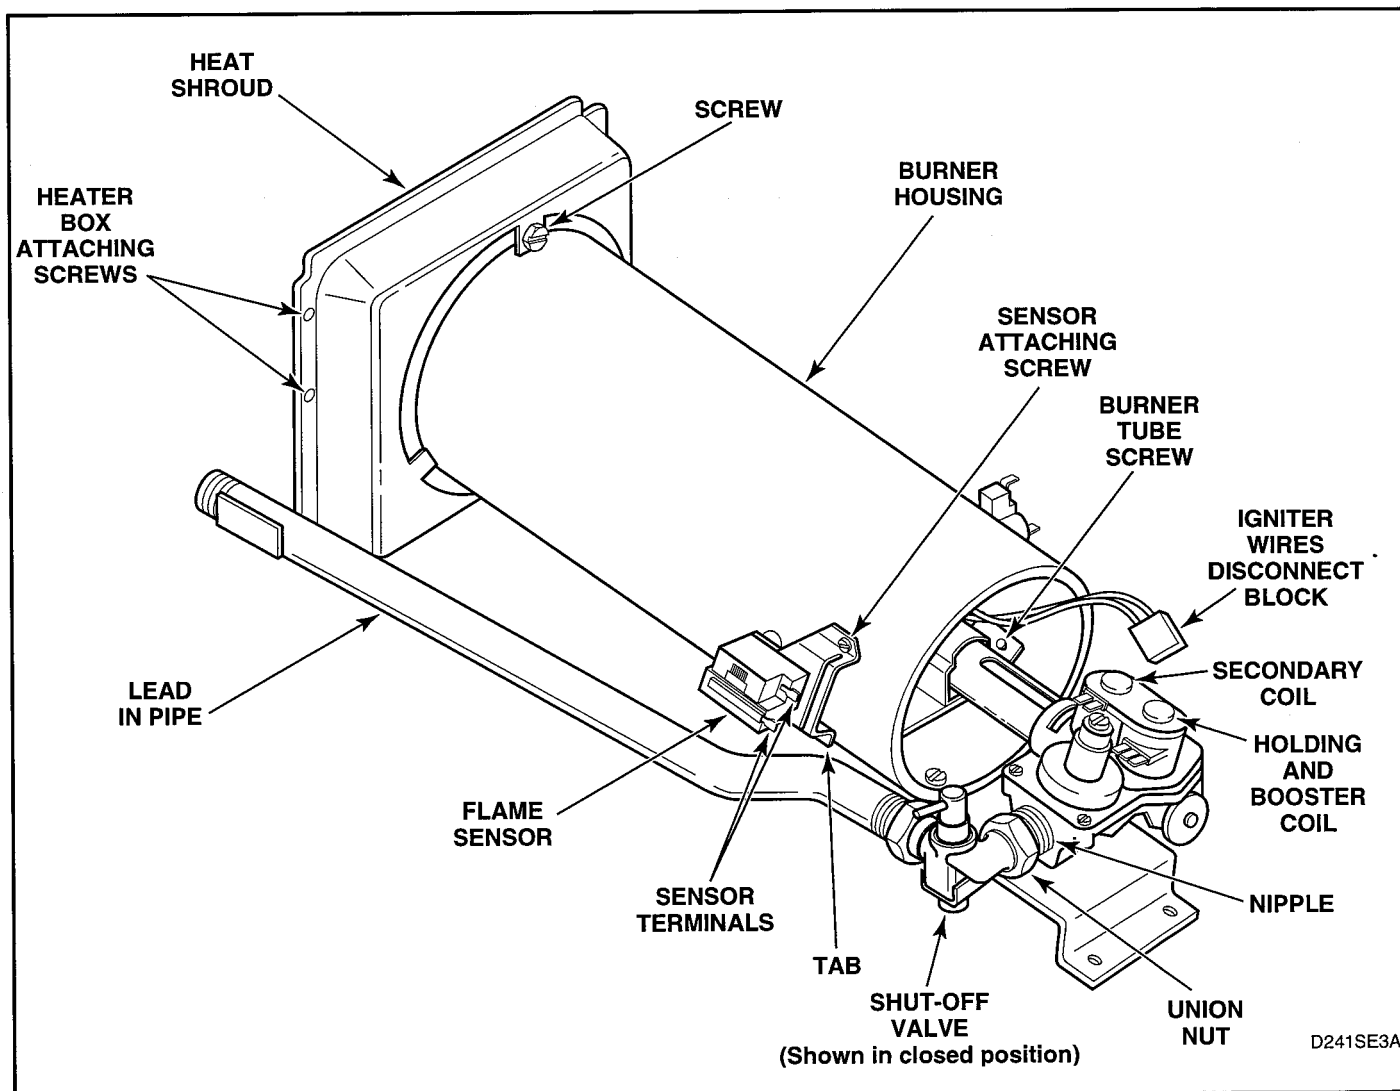

Figure 5-9
3. Close main gas shut-off valve, disconnect igniter wires at disconnect blocks, sensor wires from flame sensor terminals, and wires from gas valve coils at the quick disconnect blocks. See figure 5-9.
4. Disconnect gas shut-off valve from gas valve at the union nut. See figure 5-9.
5. Remove three screws holding valve and mounting bracket to base. See figure 5-9.
6. Lift gas valve and mounting bracket from base. See figure 5-9.
- Disconnect igniter wires at disconnect blocks, sensor wires from flame sensor terminals, and wires from gas valve coils at the quick disconnect blocks. See figure 5-9.
- Gently move burner tube toward rear of dryer to disengage tab from slot on left side of burner housing. See figure 5-9.
- Remove screw holding burner housing to heat shroud. See figure 5-9.